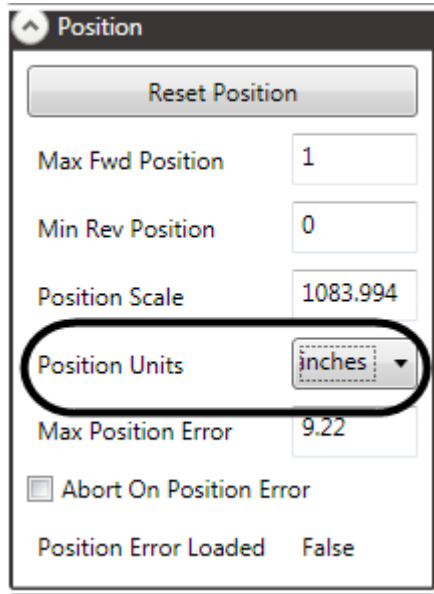

Figure 35
5. Select **"inches"** from the **Position Units** drop-down box (Figure 35).